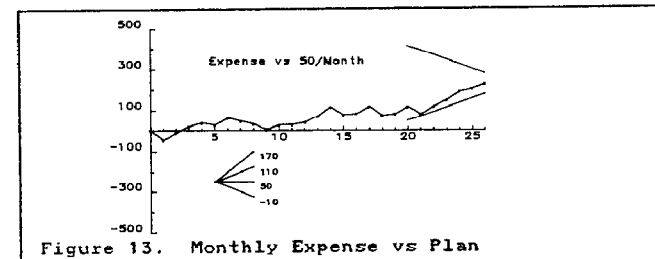

Figure 13. Monthly Expense vs Plan
**CUSUM CHART** A more sophisticated chart that uses the running total of the difference between a process and a fixed level. (Now you start to see the need for APL!) It is particularly good at giving a visual image of changes in processes Figure 13